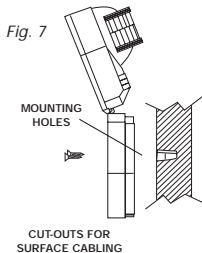

Fig. 7
- Place the backplate of the unit in the desired position and mark the locations of the mounting holes [Fig. 7]. Next drill the holes to the required depth and insert the wall plugs.